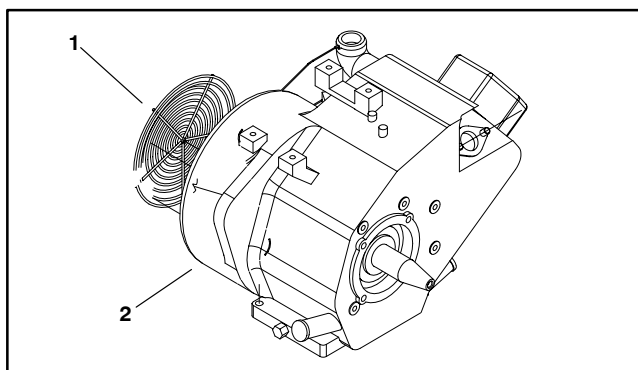

Figure 12
4. Clean static debris screen and blower housing of dirt and debris. Remove screen and housing if necessary (Fig. 12).